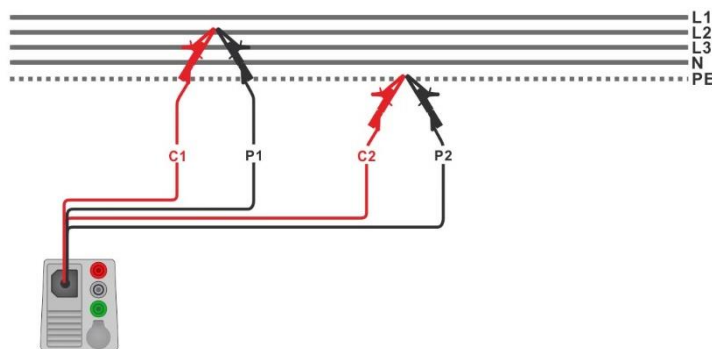

Figure 7.44: Connection of 4-wire test lead
- › Connect 4-wire test lead to the object under test, C1, P1 terminals to phase and C2, P2 terminals to PE; see **Figure 7.44**.